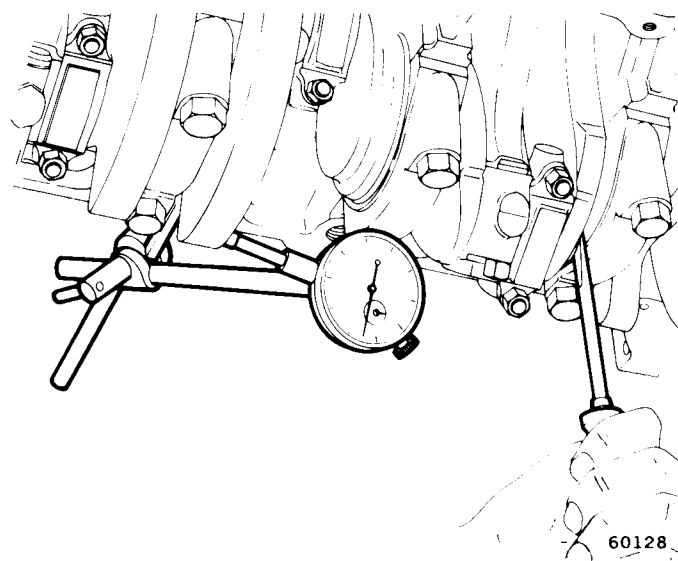

Fig. 1B-41 Crankshaft End Play Measurement
(1) Attach a dial indicator to crankcase adjacent to No. 3 main bearing.
(2) Set dial indicator push rod on face of an adjacent counterweight (fig. 1B-41).